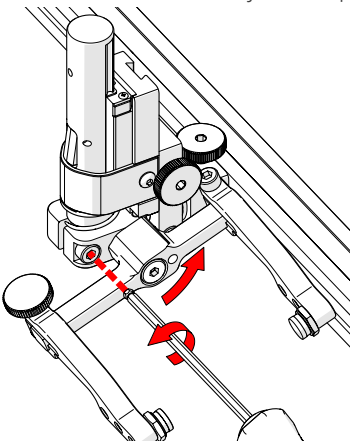

Fig. 113 - Loosen 3 mm screw
2. Using the supplied 3 mm hex driver loosen the transverse adjustment screw (*Fig. 113*) and rotate the yoke about the vertical shaft achieving the desired angle.